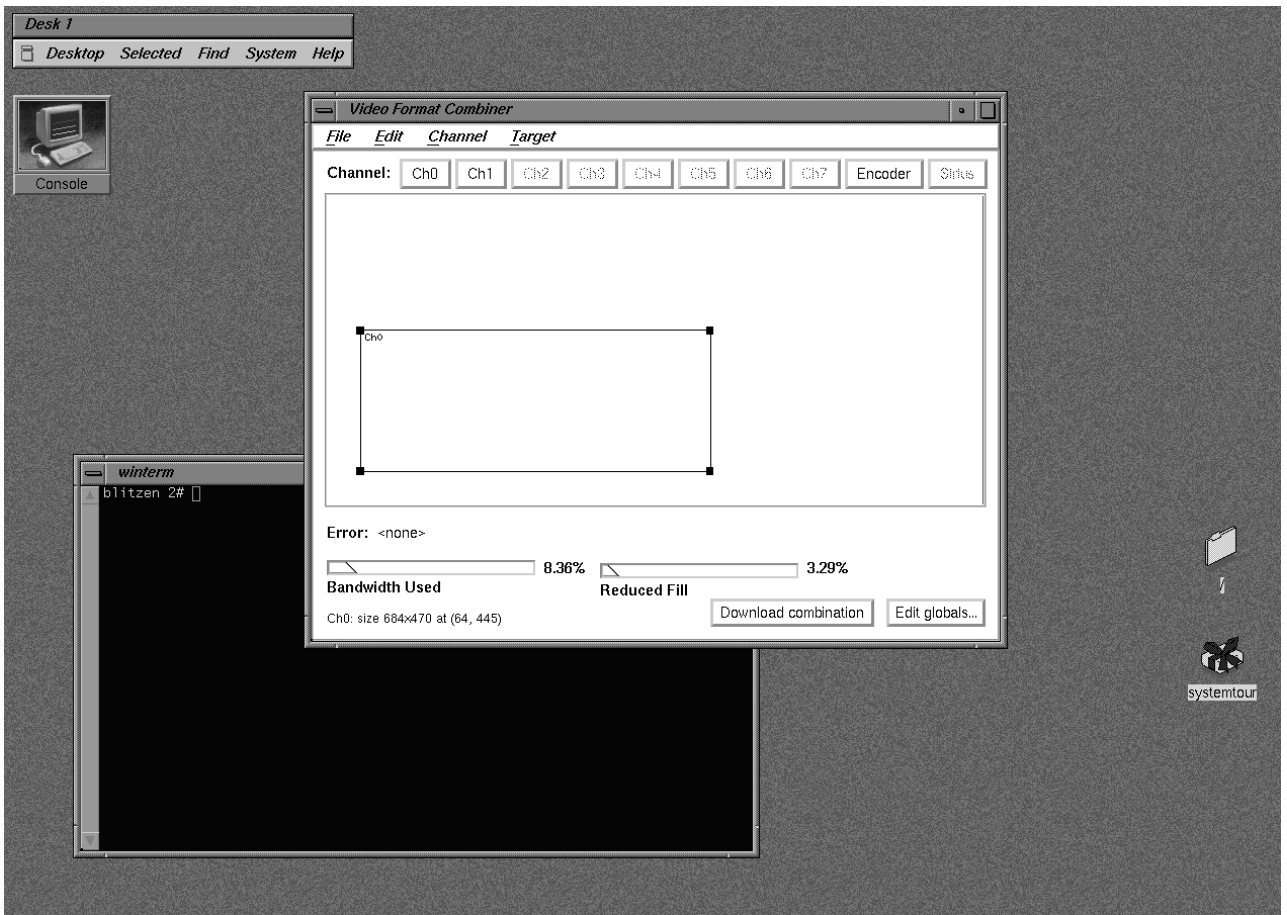

Figure 3-18 Static Resize Selection Example Screen
6. Move the cross (cursor) into the IRIX shell window and click the mouse button. The rectangle in the Combiner’s main window representing Ch0 now represents the area of the frame buffer covered by the 80 x 24 IRIX shell that you clicked in. See Figure 3-18 for a screen example.